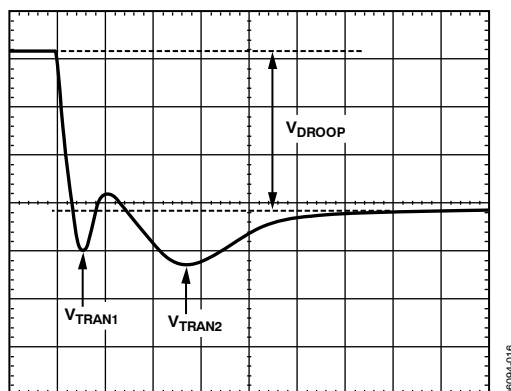

Figure 18. Transient Setting Waveform
18. With the dynamic load still set at the maximum step size, expand the scope time scale to either 2 $\mu s/div$ or 5 $\mu s/div$. The waveform can have two overshoots and one minor undershoot (see Figure 18). Here, V_{DROOP} is the final desired value.